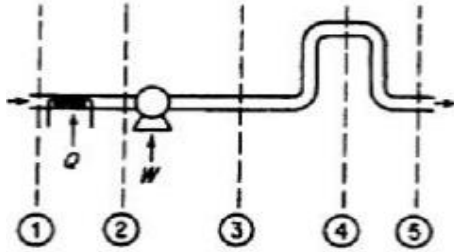

Figure E24.1
- (1) the system is insulated.
- (2)  $Q$  is very small in relation to the other terms in the energy equation and may be neglected.
- (3) the process takes place so fast that there is no time for heat to be transferred.
Figure E24.1 illustrates a process in which several segments are distinguished by numbered boundaries. List the simplifying assumptions to make in Equation (1) for the following segments: 1 to 5, 4 to 5, 3 to 4, 3 to 5, and 1 to 3.